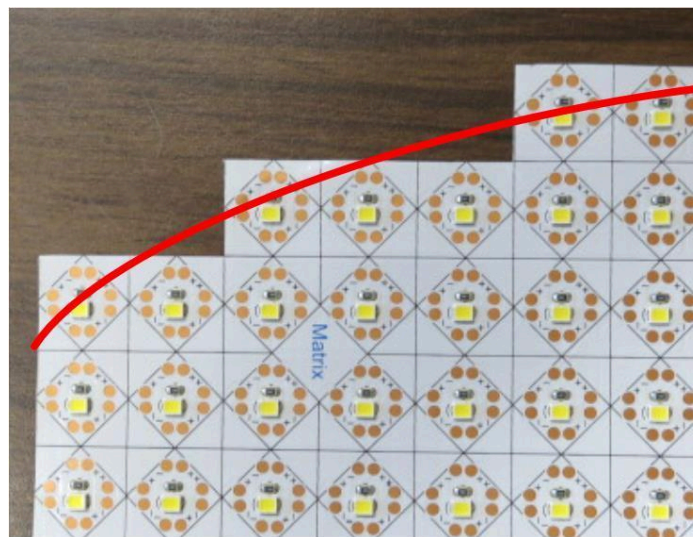

Figure 6
8. If the substrate has a curved edge, cut Matrix sheet so that no diode overhangs the edge. **See Figure 6.** The red line represents the curved edge of the substrate. Diodes that are outside this line have been removed. The remaining, overhanging material can be folded (not cut) along the edge to remove the possibility of shadow lines.